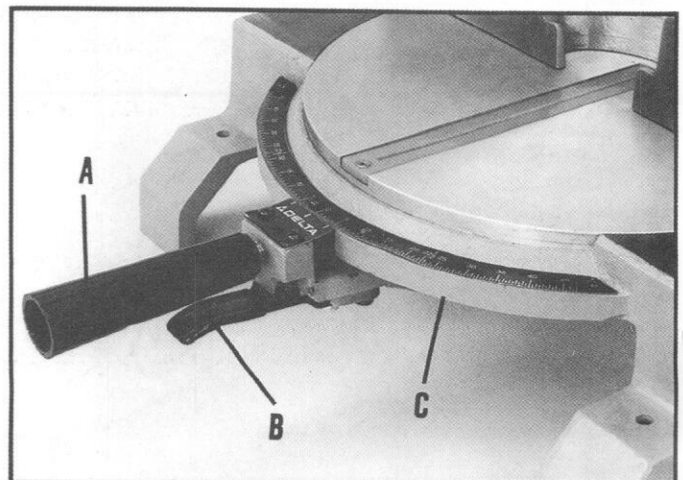

Fig. 15
Your miter box will cut any angle from a straight 90 degree cut-off to 47 degrees right and left. Simply loosen lock handle (A) Fig. 15, depress index lever (B) and move the control arm to the desired angle. Then tighten lock handle (A).
Your miter box also contains positive stops for the table control arm at the 0, 22-1/2 and 45 degree, right and left positions. Simply loosen lock handle (A) Fig. 15, and move the control arm until the spring loaded positive stop engages into the indent located directly underneath the ledge (C) at the 0, 22-1/2 and 45 degree positions. Then tighten the lock handle (A). To disengage the positive stop, depress index lever (B). Always tighten lock handle (A) before cutting.